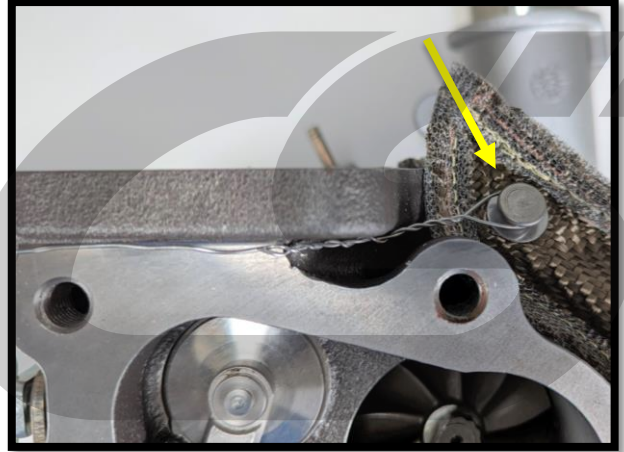

Figure 2d
- d) Place the wire loop around the button rivet shown in **Figure 2d**.